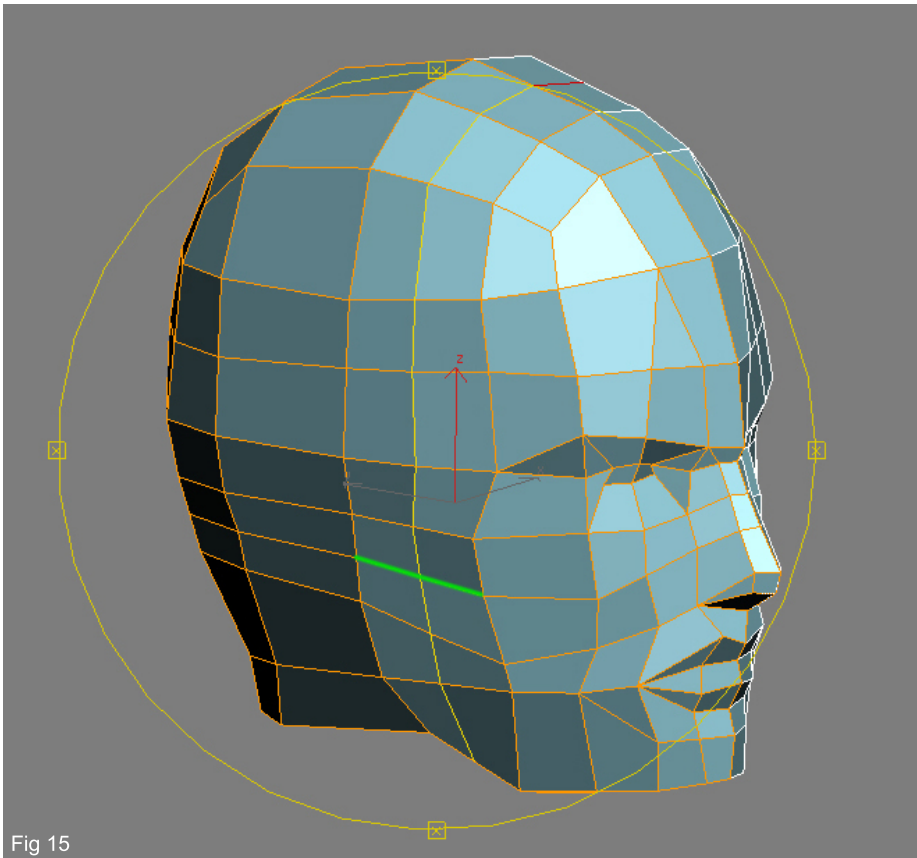

Fig 15
15. Select an edge in line with the green line in Fig15 and perform a "Ring/Connect" once more resulting in another subdivision as shown by the yellow line.